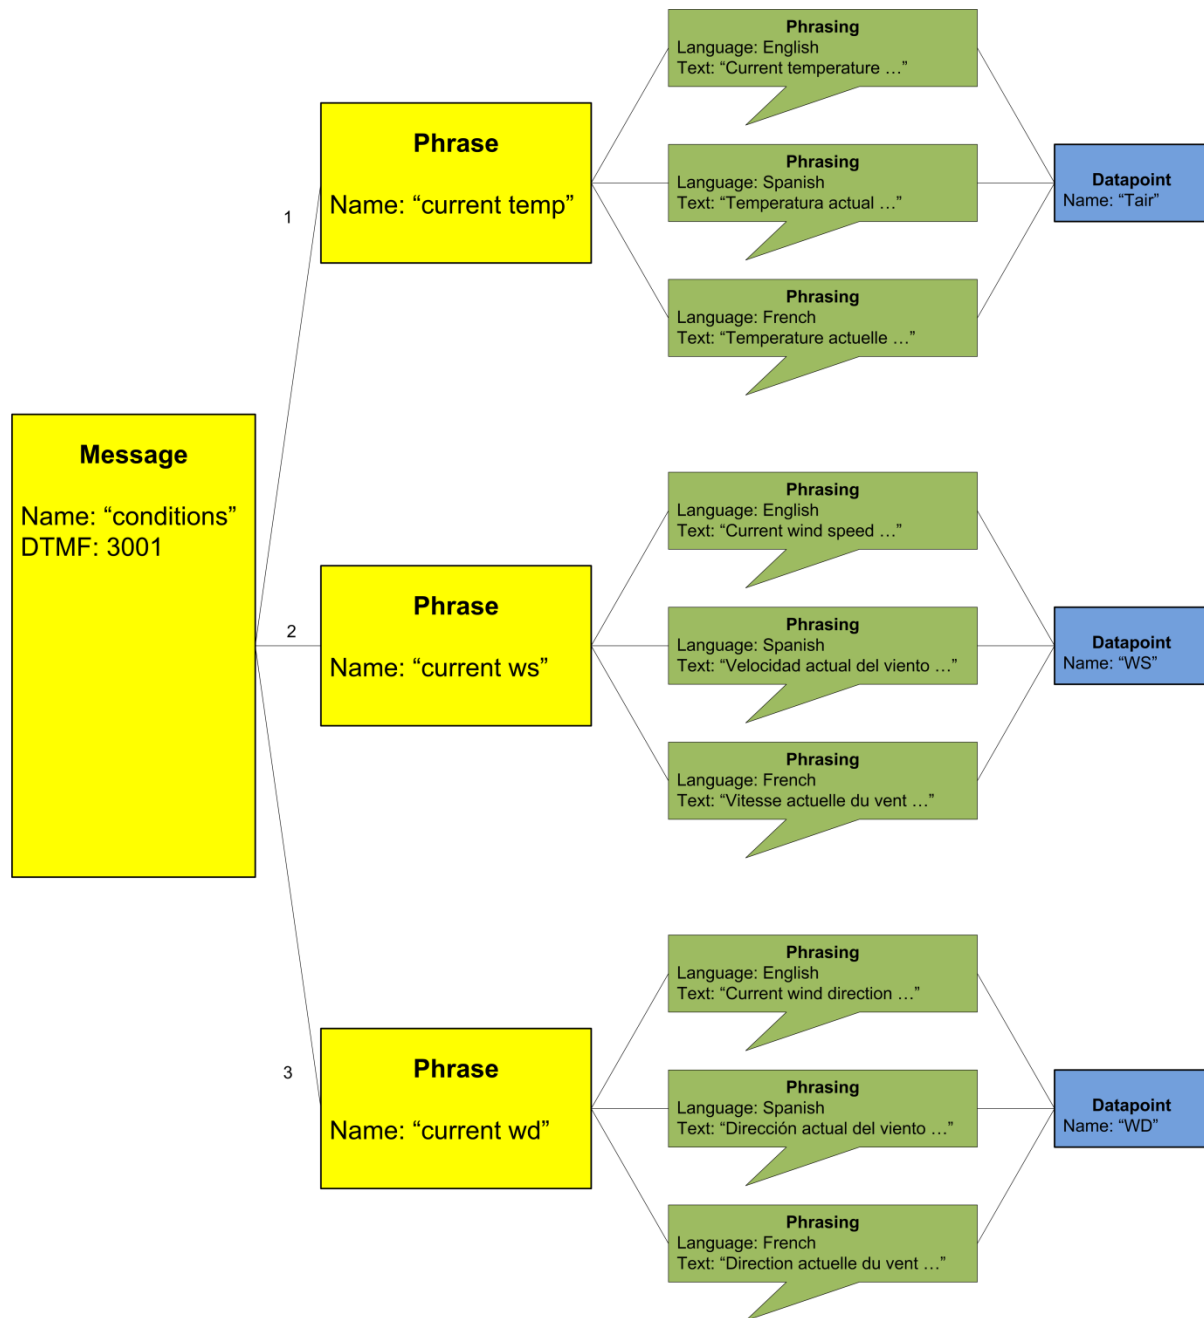

Figure 9-2: Example message structure
Figure 9-2 shows how an example message for reporting current atmospheric conditions would be set up. This message can be transmitted in English, Spanish or French. (Note: These languages are used for example only. Your system may have different languages installed.) The order of phrases for this message is (1) current temperature, (2) current wind speed, and (3) current wind direction.